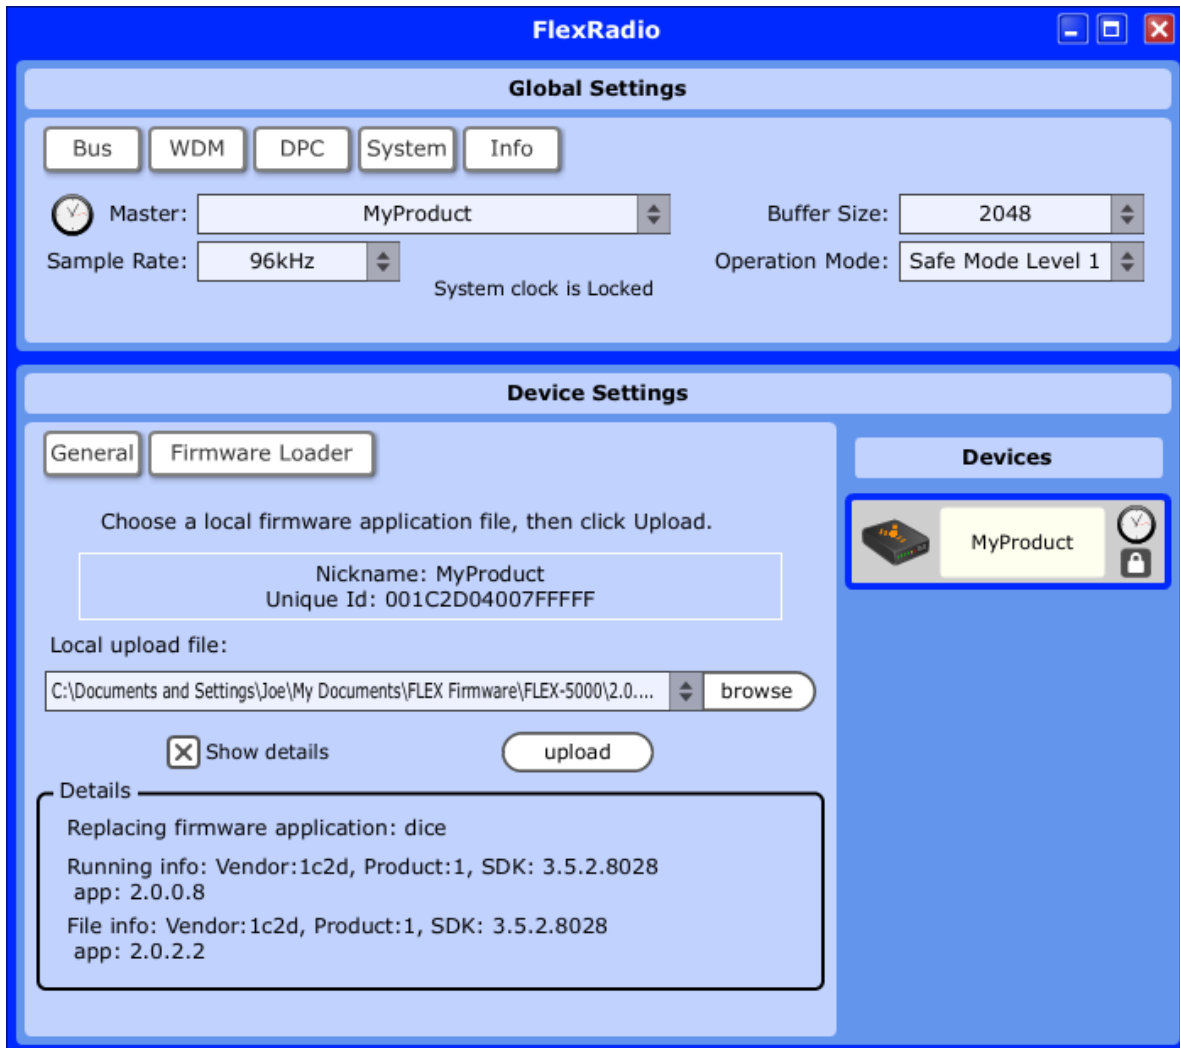

Figure 151: FlexRadio Control Panel - Firmware Details
- Click **Show details** to view the firmware details (Figure 151). The **Running Info** displays the firmware version you are currently running (**app: 2.0.0.8**), whereas the **File info** displays the version you are about to upload (**app: 2.0.2.2**).